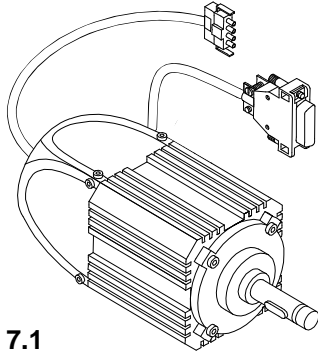

Fig. 7.1
**Motor** QE3760 or QE5540 (Fig.7.1) with integrated optoelectronic incremental encoder for commutation and positioning.